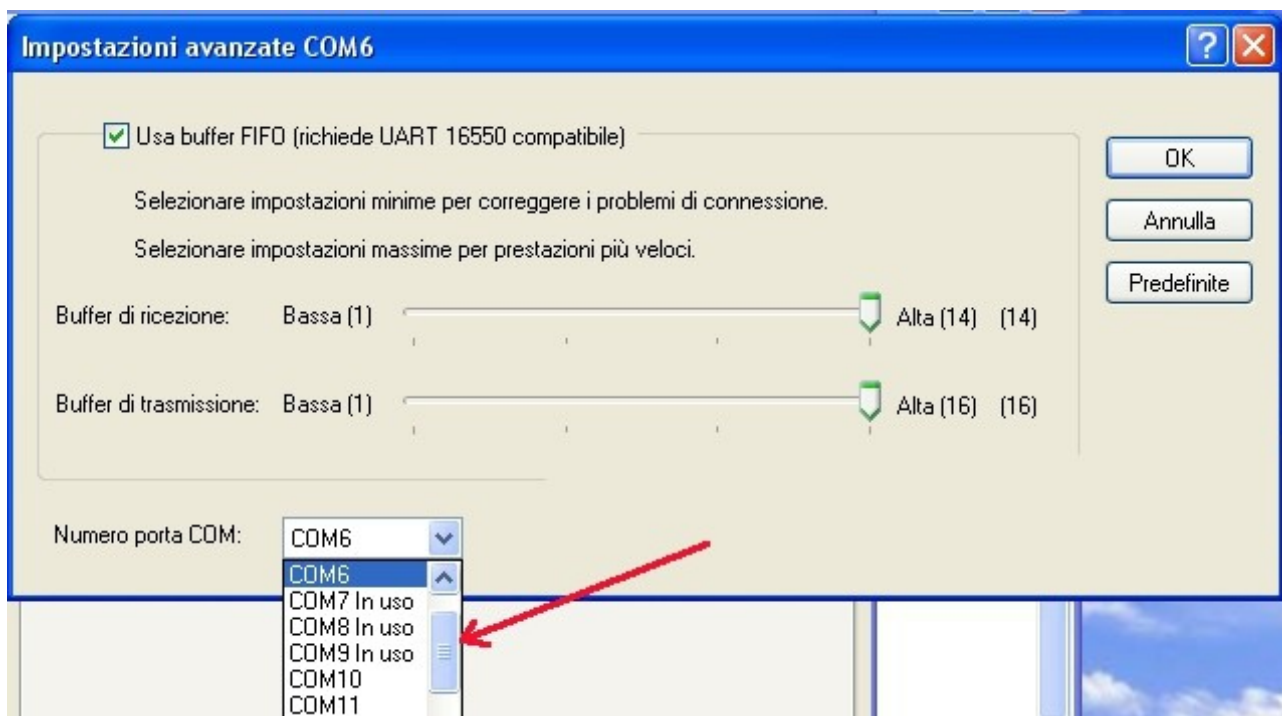

Figure 12: Port number setup
6. Select 'Port setup', then 'Advanced', which in turns opens the 'Advanced seutp for COM X' window (see Figure 12).